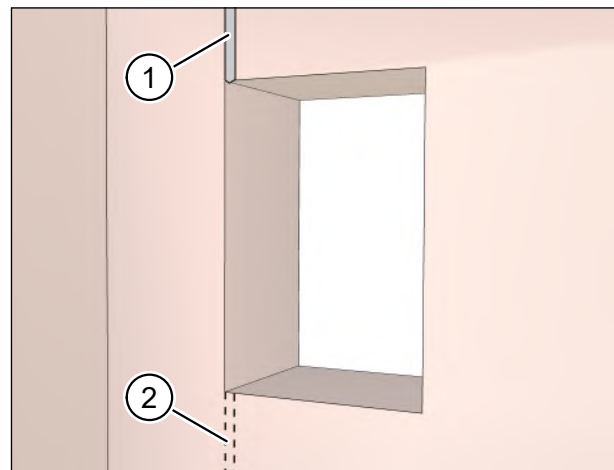

Fig. 15: Chasing out channels for connecting cables
- ▶ Chase out a channel for the mains and control cables (item 1 in Fig. 15).
The wall channel in Fig. 15 is shown by way of example. An alternative wall channel is shown as dashed lines (item 2 in Fig. 15). For the subsequent electrical installation work, we recommend running the mains and control cables from the left at the wall breakthrough.